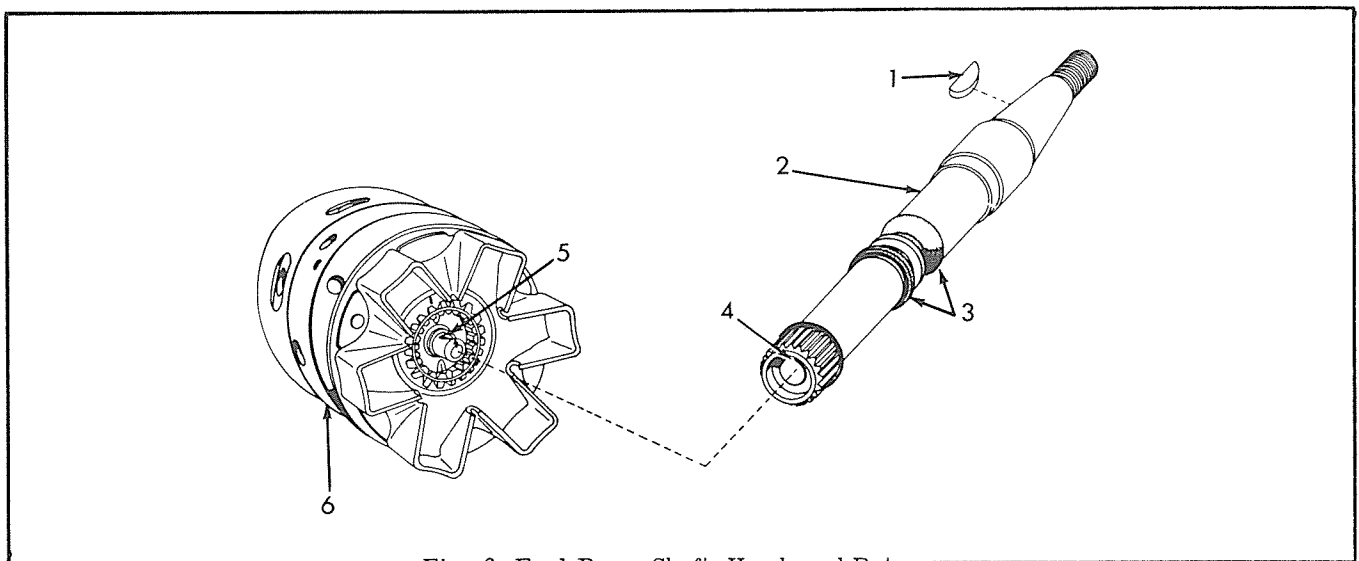

Fig. 6—Fuel Pump Shaft, Head, and Rotor
5. Disconnect throttle control rod from fuel injection pump; remove two stud nuts and serrated washers. Remove pump by sliding to the rear off of drive shaft. Use care to prevent damaging the drive shaft seals, Fig. 6 (3).
4. Inspect the seals on the pump drive shaft, Fig. 6 (3), and replace them if necessary. Inspect the pump drive shaft and replace if worn or damaged. Refer to "FUEL PUMP DRIVE GEAR, DRIVE SHAFT, AND MOUNTING COVER", in this Topic, for drive shaft removal.
In order to prevent the installation of the fuel pump 180° out-of-time an internal groove is provided in the splined end of the pump drive shaft which must be engaged by an internal tang of the distributor rotor within the fuel injection pump, Fig. 6.
5. Lubricate the seals, Fig. 6 (3), with engine oil or grease. Slide the fuel injection pump assembly into position over the drive shaft, using care to prevent damage to the seals. Install the serrated washers and the pump-attaching stud nuts but do not tighten the nuts at this time.